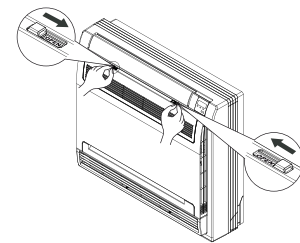

Fig. 3
- 1) Open upper side of Indoor Unit's frontal panel by moving the two locking slides towards the centre, closer to each other (Fig. 3).